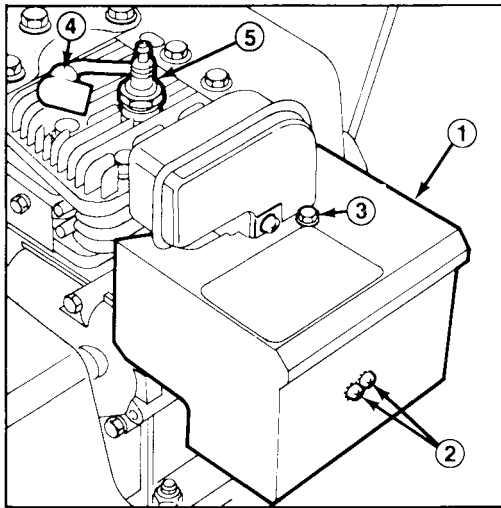

Figure 16
**Note:** (Model 521 only) If engine is operated when temperature is +40° F (4° C) or higher, remove carburetor heater box (Fig. 16). However, the heater box must be reinstalled when temperature falls below +40° F (4° C). To remove heater box:
- A. Remove phillips screws and hex head screw securing heater box in place. Pull choke knob off choke rod (Fig. 16).
1. Push high tension wire onto spark plug (Fig. 16).
To prevent accidental starting of the engine while performing maintenance, rotate ignition key to off and remove it from the switch. Next, pull high tension wire off spark plug (Fig. 16) and make sure wire does not accidentally touch the plug.
1. Pull high tension wire off spark plug and make sure wire does not contact plug accidentally (Fig. 16).